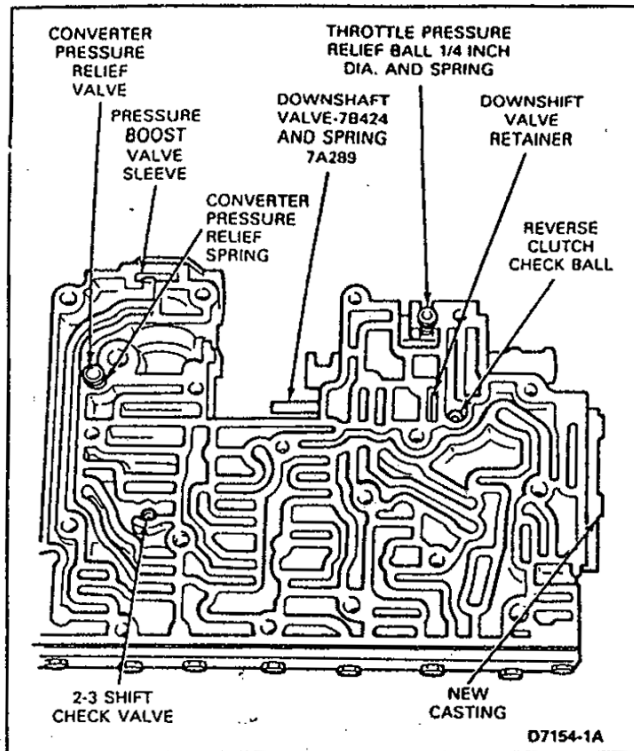

FIG. 27 Downshift Valve and Spring, Converter Pressure Relief Valve, Throttle Pressure Relief Valve Check Ball, and 2-3 Shift Check Valve Locations
1. Place the downshift valve and spring in the valve body. Compress the spring and install the retainer from the underside of the body (Fig. 27).
2. Place the valve body on a clean surface with the passage side facing up. Place the converter relief valve spring in its bore (Fig. 27). Coat the converter pressure relief valve with petroleum jelly and place it on top of the spring. Place the 2-3 shift valve check ball in its cavity. Place the throttle pressure relief valve spring in its bore (Fig. 27). Coat the throttle pressure relief valve check ball with petroleum jelly and place it on top of the spring. Place the reverse clutch check ball in its cavity.